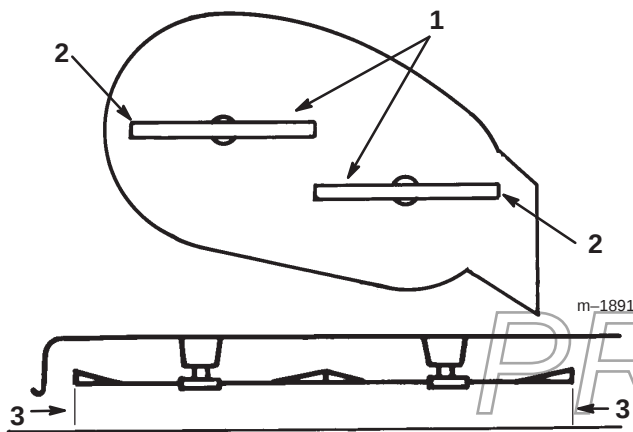

Figure 47
4. Carefully rotate blade(s) side to side (Fig. 47). Measure between the outside cutting edges and the flat surface (Fig. 47). If both measurements are not within $\frac{3}{16}$ ” (5 mm), an adjustment is required; refer to steps 5 and 6.